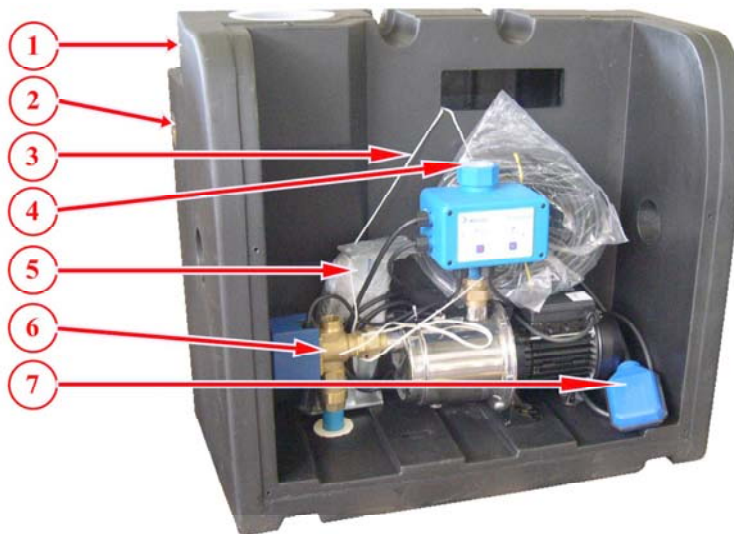

Figure 1: RainFlow Drinking water's reservoir
Position the unit on a vertical surface capable of holding aprox 60kg). 2 shelves and the relative screw expansion are furnished, for the fixing to wall (Fig.1 rif. 5). Verify the horizontal and vertical levels .
1. To remove the thread of fixing for the transport of the flow and the stirrups to wall (Fig.1 Rif. 3).
2. To connect the suction pipeline of the reservoir of collection Rainwater of it, endowed with ground valve or non-return valve, to the solenoid valve in three ways (screw 1" male Fig.1 Rif. 6).
3. To connect the delivery side of RainFlow (screw 1"1/4 female Fig.1 Rif. 4) to the user system. To prevent damage caused by vibration we recommend the use of a flexible pipe), three pieces cross and a manometer.
4. To connect the filling float of the drinking water reservoir to the hydraulic net (screw 1" male Fig.1 Rif.1).
5. To connect the over flow (screw 1" female Fig.1 Rif. 2) with pipeline suited to get through the water in case that the inside level to the reservoir climbs over the allowed limits.
6. To install the float (Fig.1 Rif. 7) in the Rainwater reservoir positioning the counterweight to the correct distance, to get the contact point to the desired levels and to verify that there are no obstacles to the movement. To the necessity, it is possible to disconnect the wires from the electric system, to effect the laying of the cable and to connect him (see par. 2.3.4 Float and Clock connection).